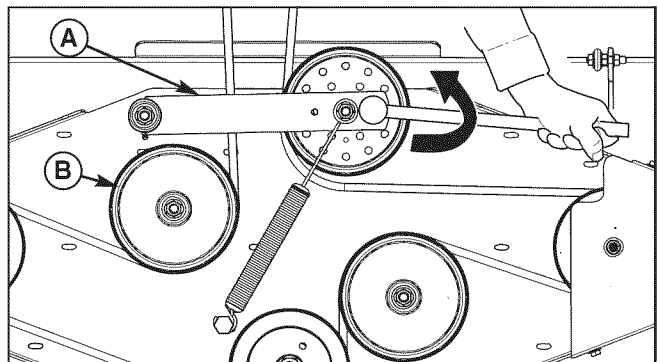

Figure 18. Mower PTO Belt
1. Using a 1/2" breaker bar, place the square end in the square hole located in the end of the idler arm (A, Figures 18). Carefully rotate the breaker bar counter-clockwise, which will relieve the tension on the belt exerted from the idler arm.
2. Slide the drive belt over the edge of the stationary idler pulley (B). Carefully release the tension on the breaker bar. Remove the belt from the right-hand (discharge side) spindle pulley.